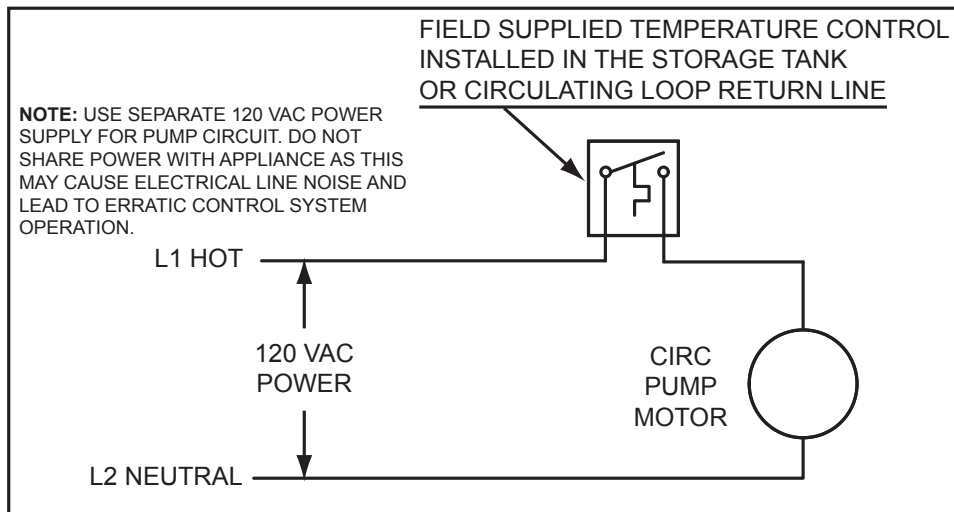

Figure 42. Circulating Pump Wiring Diagram Storage Tank or Building Recirculation
6. If a pump is being installed between a water heater and storage tank or on a building recirculation loop wire according to *Figure 42* (page 64).